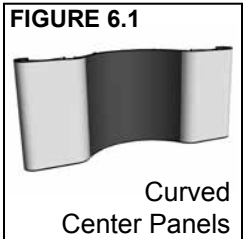
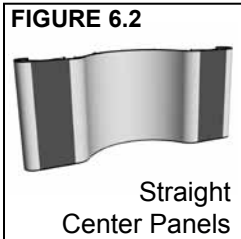
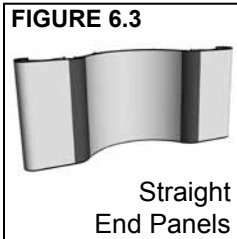

FIGURE 6.1
FIGURE 6.2
FIGURE 6.3
Start with the curved center panels (G), hang them on the curved frame (A), (Fig. 6.1) Hang the straight center panels (H) on each straight frame (B), (Fig. 6.2). Use the straight end panels (J) to connect the curved frame (A) to each of the straight frames (B), (Fig. 6.3).